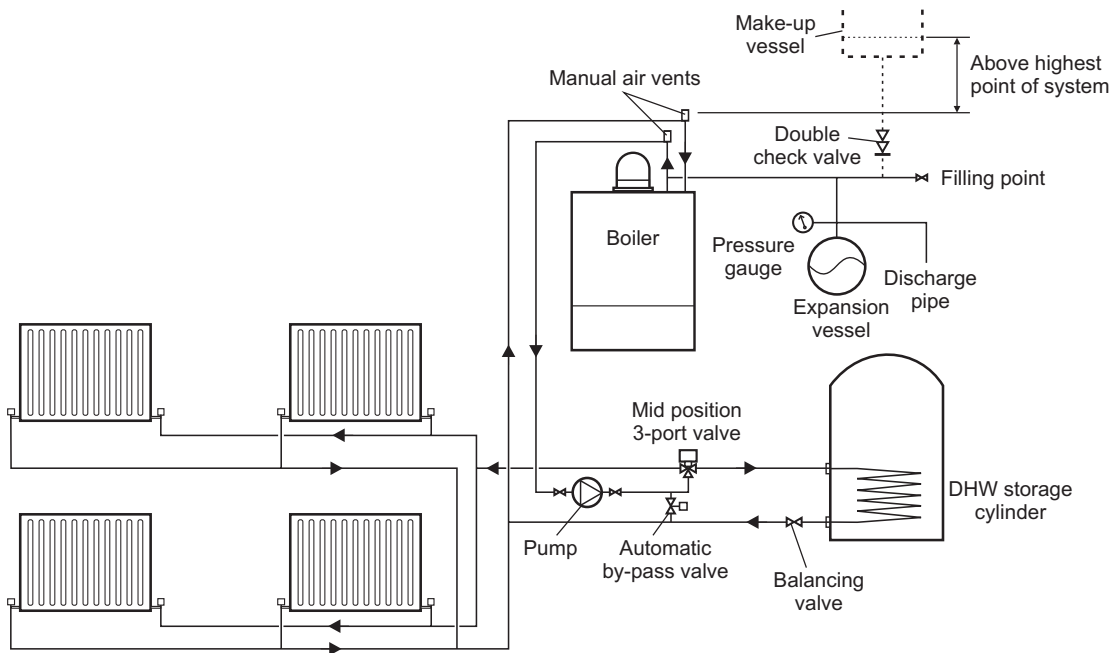
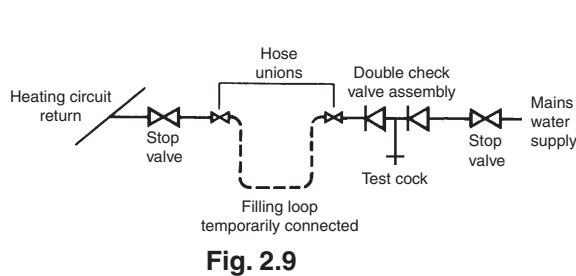
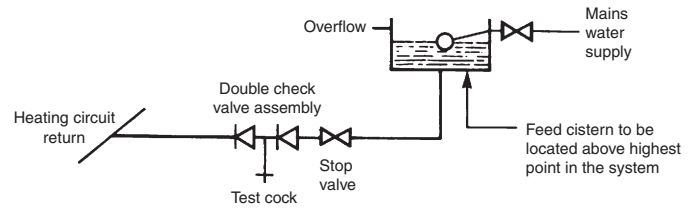

Fig. 2.8 - Sealed system with Y-Plan
Fig. 2.9
Fig. 2.10
3.9 FILLING THE SEALED CENTRAL HEATING SYSTEM - Figs. 2.9 and 2.10
Provision should be made to replace water lost from the system. This can be by manual or automatic means, as shown in Figs. 2.9 and 2.10. The position for connecting an automatic make-up vessel is indicated in Fig. 2.8. A double check valve assembly must be used, as shown in Fig. 2.10.
Filling of the system must be carried out in a manner approved by the local Water Undertaking. Where allowed, the system may be filled via a temporary connection as shown in Fig. 2.9. After filling, always disconnect the flexible hose of the filling loop.